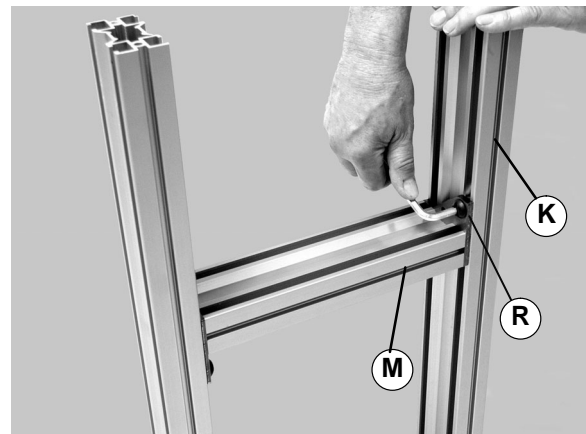

**Figure 5**
4. Attach crossmember (M of Figure 5) to stand leg (K) with button screws (R). Do not tighten.
5. Repeat step 4 for opposite stand leg. Make sure to locate the red warning area (P of Figure 3) on the same ends of stand legs (K of Figure 5).